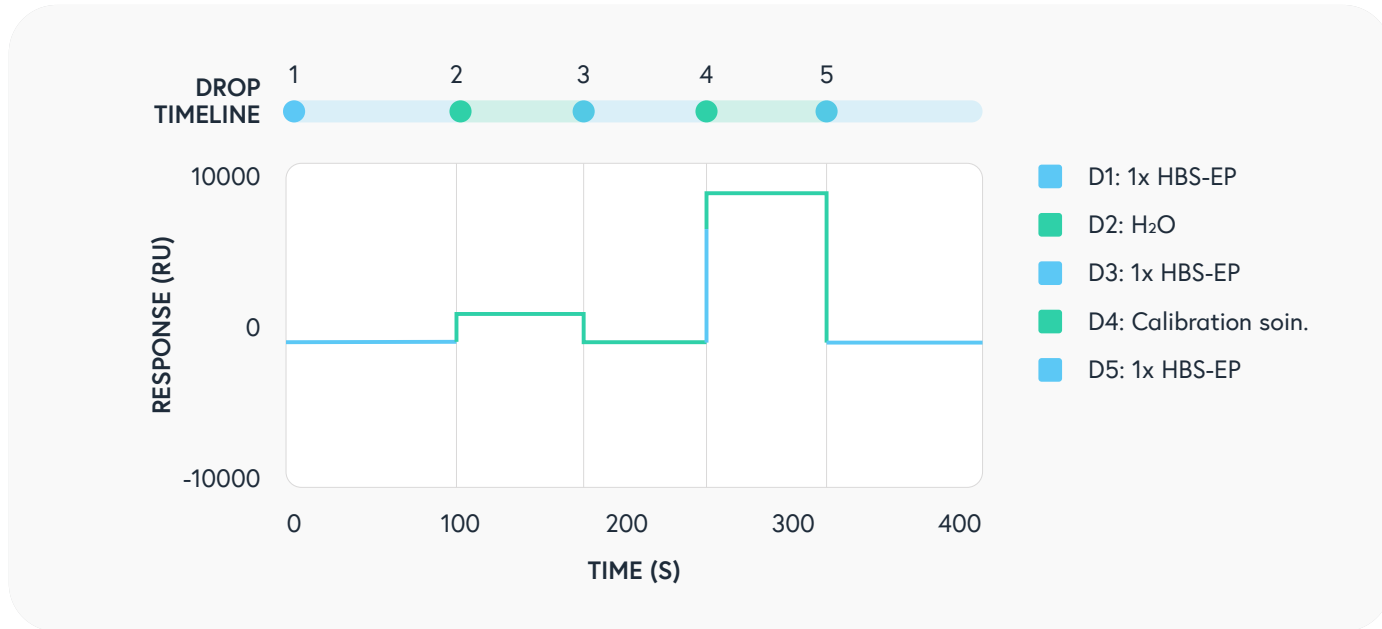

Figure 14: Bulk shifts are caused by an RI difference between the sample buffer and running buffer. They have a characteristic square shape.
Bulk shift, or solvent effect, occurs as a result of a difference between the refractive index (RI) of the analyte solution and running buffer. This will create a tell-tale 'square' shape in the sensorgram due to a large, rapid response change at the start and end of the injection (**Figure 14**). The shifts may be positive or negative, depending on the RI difference detected.